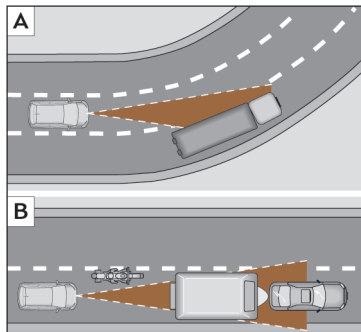

Fig. 162 **A** Vehicle on a bend. **B** Motorcyclist ahead, out of range of the radar sensor.
The ACC may not detect the vehicle in front on a curve, or may regulate the distance from vehicles in other lanes»» Fig. 162 [A].
- Vehicles that are not aligned while driving or that are outside the sensor's detection area, such as motorcycles»» Fig. 162 [B]